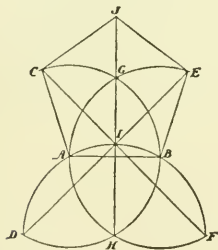

Fig. 622
27. To construct a regular pentagon one side being given (Fig. 622).—From A and B as centres, with radius AB, draw arcs intersecting in G and H. With H as centre, and with radius HA, draw an arc cutting the other two arcs in D and F. Draw GH cutting the last arc in I. Draw lines from D and F, through I, cutting the first two arcs in C and E. Draw AC and BE. From C and E as centres, with radius AC, draw arcs intersecting in J. Draw CJ and EJ. ABEJC will be the pentagon required.